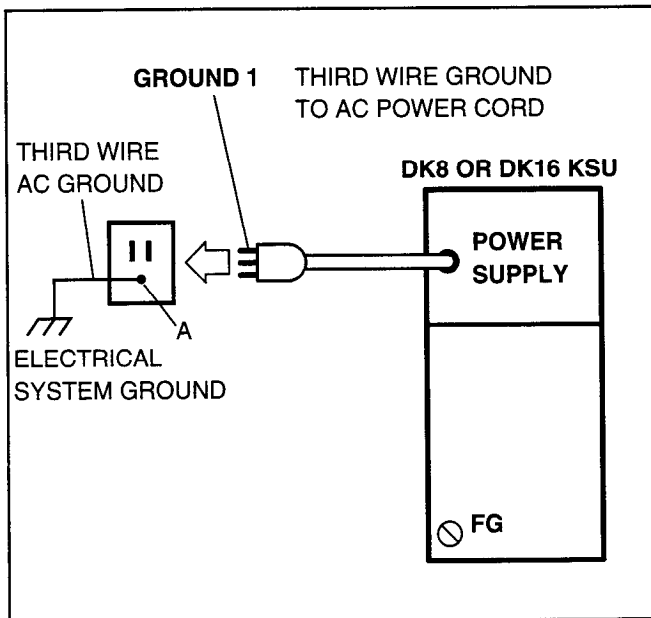

FIGURE 2-4
4.00 The systems require a solid earth ground for proper operation. Failure to provide ground may lead to confusing trouble symptoms and, in extreme cases, system failure. The AC power cord contains a conductor for the "third wire ground" provided by the commercial power outlet. The third-wire ground should be the only ground necessary for the DK8/DK16; this ground must originate at the buildings main power distribution panel and have a solid connection to earth ground. (Figure 2-4)